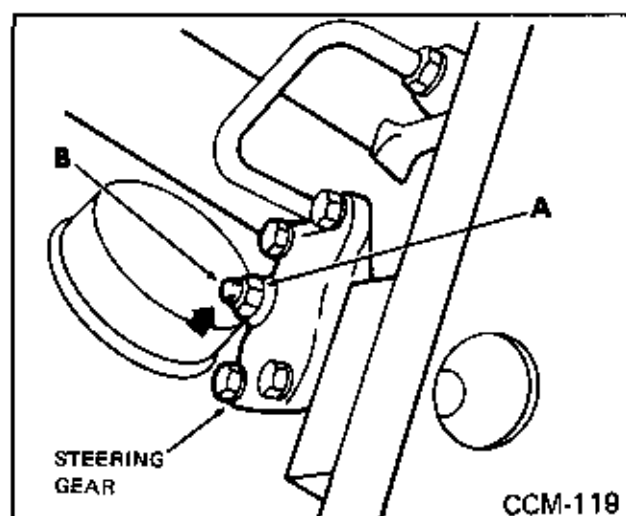

Fig. 114 Lash Adjustment
3. Loosen lash adjuster lock nut "A" (Fig. 114) and back out adjuster "B" one turn.
4. Use a spring scale at end of spoke on steering wheel, with steering gear on center and pitman shaft backed off, measure total drag. With gear on center, adjust pitman shaft thrust screw so that pre-load is four (4) to eight (8) inch pounds in excess of total pre-load and drag. Readings are to be made through an arc not exceeding 20° with gear on center. Tighten lock nut. Total over center load not to exceed 16 inch pounds.